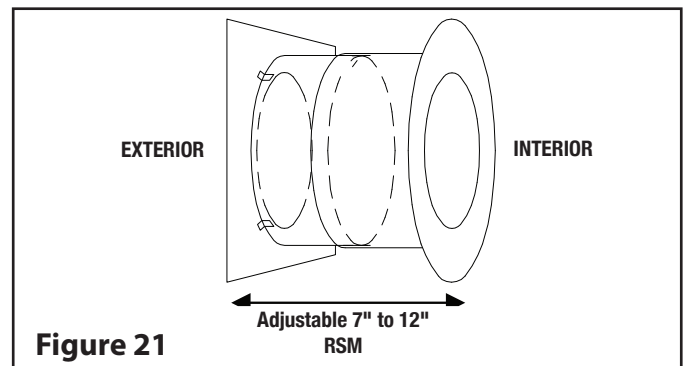

Figure 21
Step 2. Wood walls: Place the exterior half of the Wall Thimble (RSM) in the opening from the outside. Nail in place using (4) 2" nails or 1" screws. This Wall Thimble is adjustable from 7" to 12" (see Figure 21). Make sure the insulation pad is cut to the desired length according to the wall thickness. Place the interior half of the Wall Thimble inside the exterior half of the Wall Thimble. For a wall requiring more than 12", a shield extension can be field fabricated using galvanized sheet metal 26 gauge minimum.